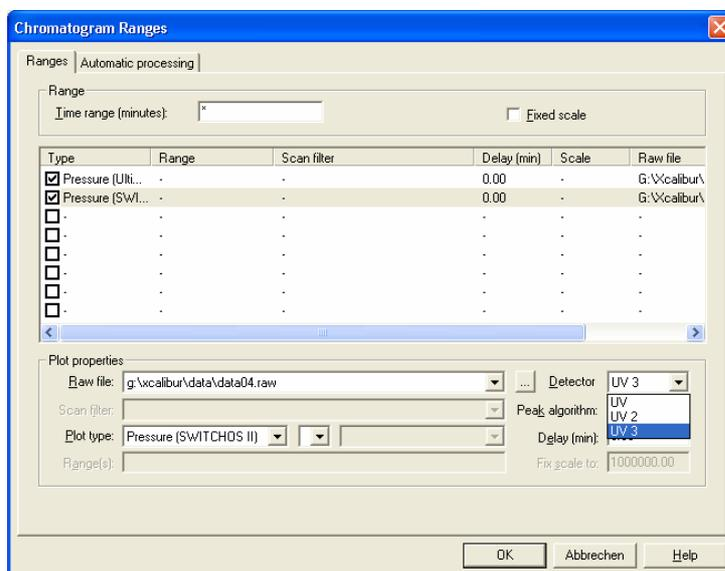

FIGURE 2-46 The Chromatogram Ranges Window
- a) Choose *Ranges...* of the **View** menu in the **Real Time Plot** window and select 'UV2' as **Detector** (FIGURE 2-46). The **Plot type** is automatically set to 'Pressure (UltiMate)'.
- c) Repeat steps a) and b). Select 'UV3' as **Detector** (FIGURE 2-46). The **Plot type** is automatically set to 'Pressure (Switchos)'.